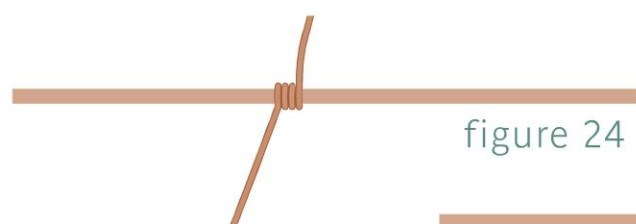

figure 24
- 3 Leaving 1" (2.5 cm) of tail wire to hold onto, coil the weaving wire around one of the frame wires two to three times about 1" (2.5 cm) from the end (Figure 24). This is Frame Wire 1.